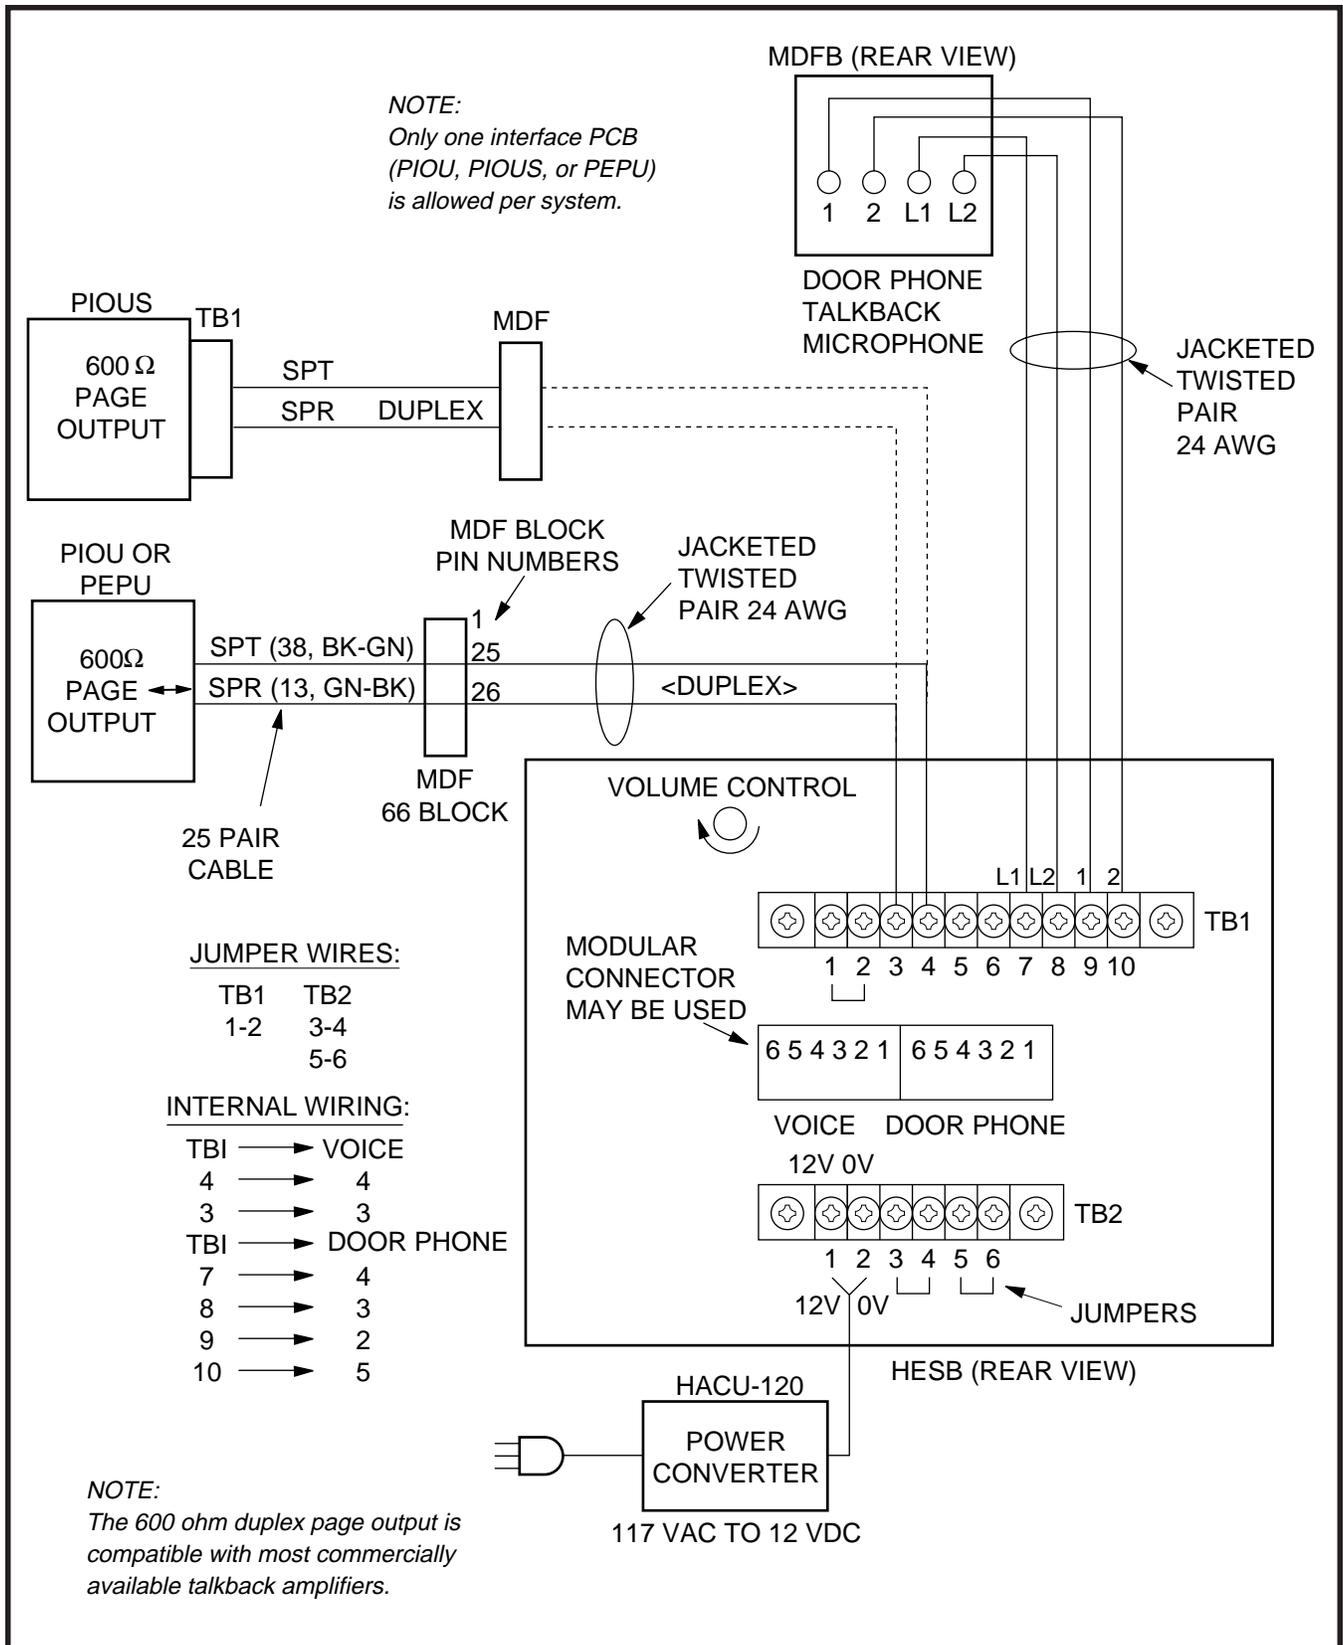

FIGURE 8-15—HESB/TALKBACK AMPLIFIED SPEAKER WIRING
5.25 Talkback Amplified Speaker Installation. Install the HESB Talkback Amplified Speaker option in accordance with the following steps (refer to Figure 8-15):